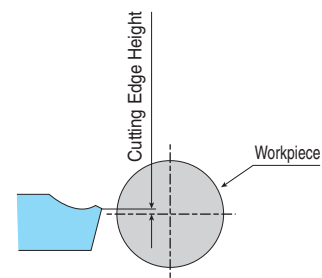

Fig.3 (TKN,TK^{R/L})
1. For TKN and TK^{R/L}, set the cutting edge height 0.1~0.2mm above the center height (Fig. 3)